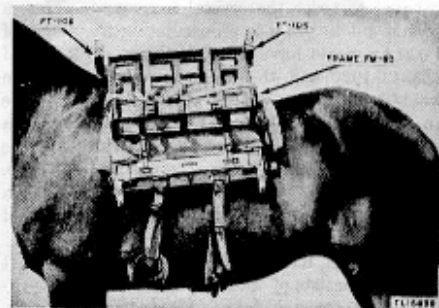

Figure 9.1 Frames FM-83 and Mountings FT-106 installed on the Phillips saddle.
c. DESCRIPTION. (1) *Frame FM-83.* The frame is constructed of angle and strap iron. There are two hooks at the bottom of the frame and two web straps at the bottom for fastening the frame to the saddle.
15.1 Mounting Pack Equipment CE-13 (fig. 9.1) (Added)